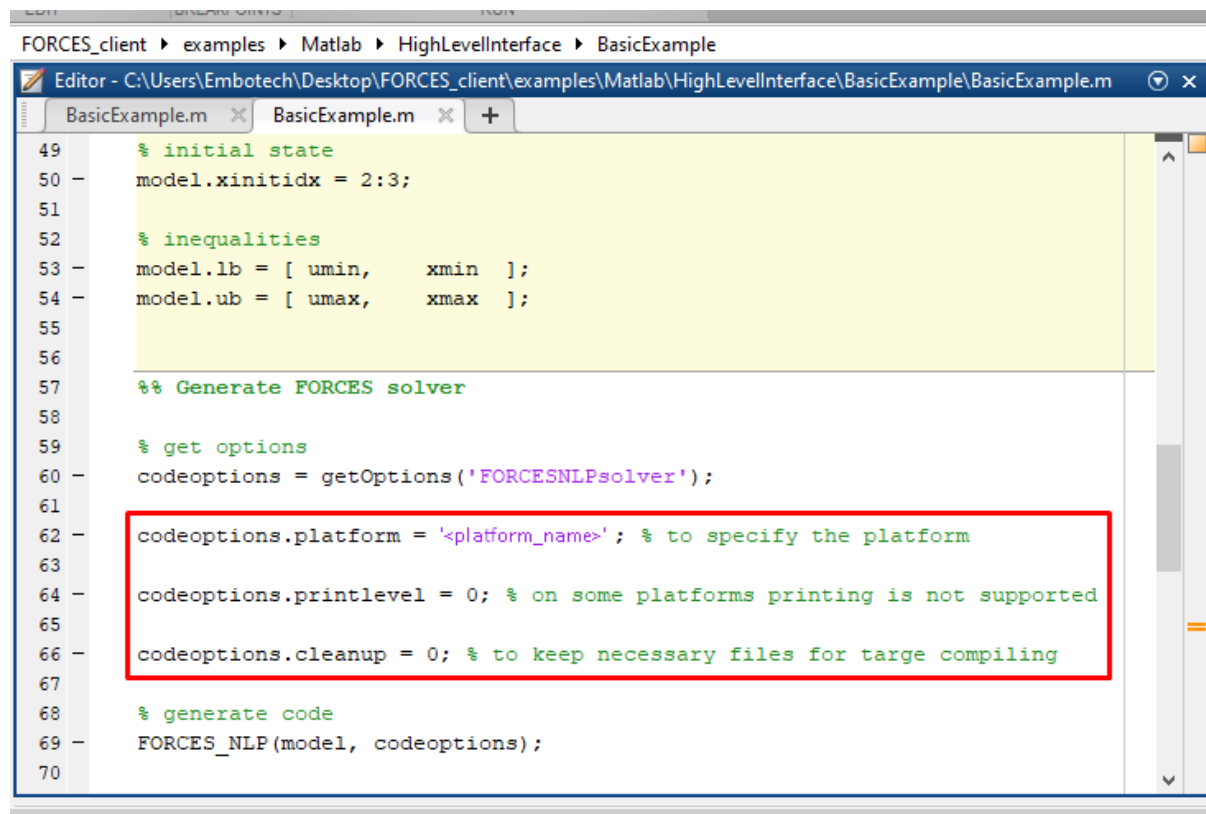

Figure 13.1: Set the appropriate code generation options.
1. (Figure 13.1) Set the code generation options (for `<platform_name>` see *Platform name codeoption*):